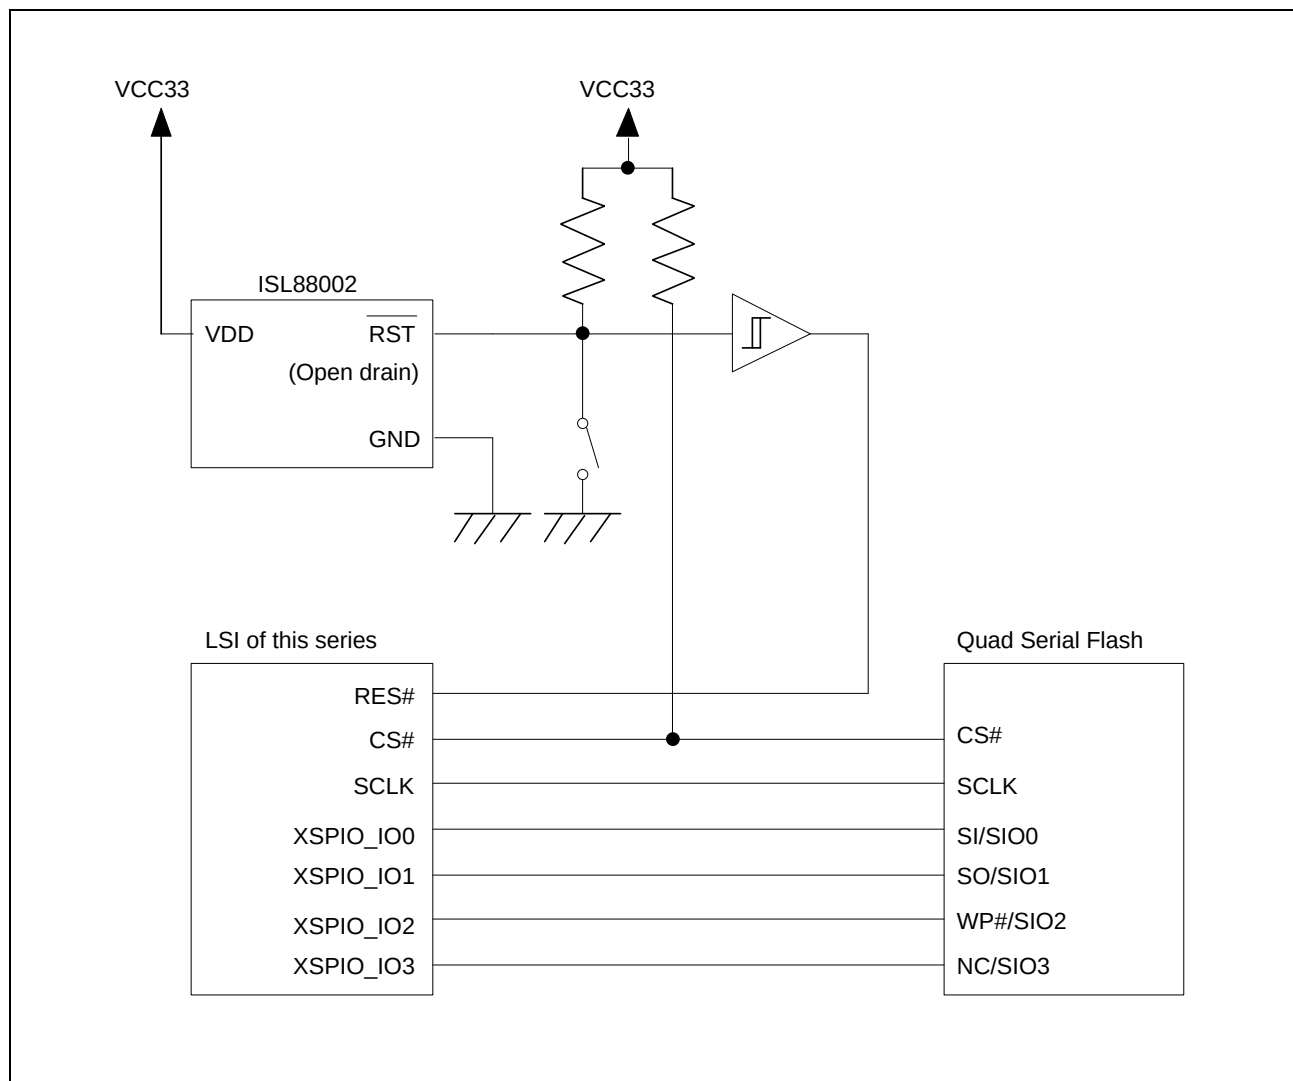

Figure 4.2 Connection example of Quad serial flash without reset pin
**Figure 4.2** shows a connection example of a Quad serial flash without a reset pin.